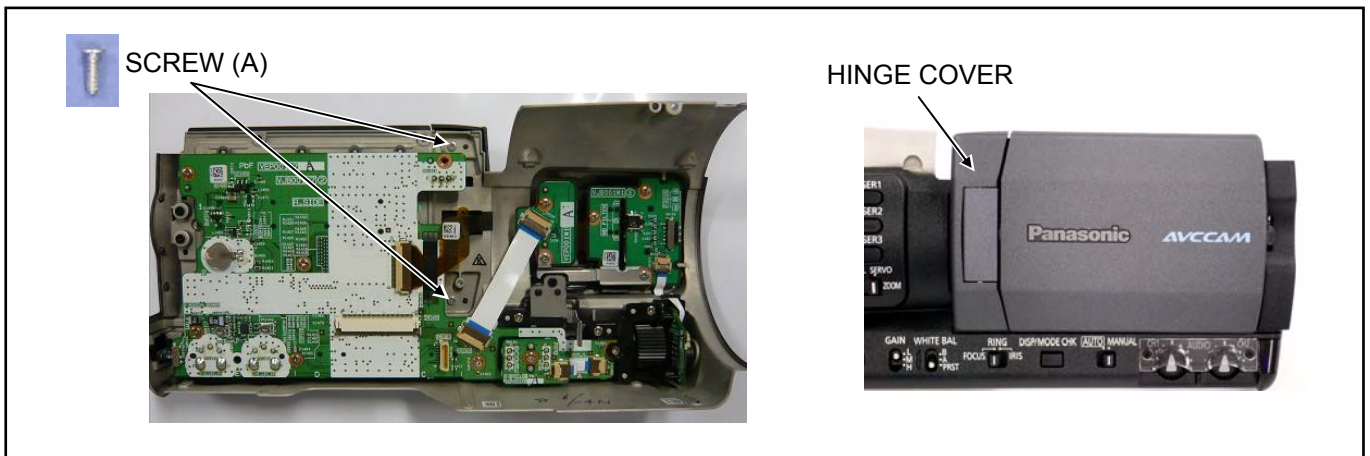

Figure 13-1
3. Unscrew the 2 screws (A) and remove the Hinge cover as shown in figure 13-1.